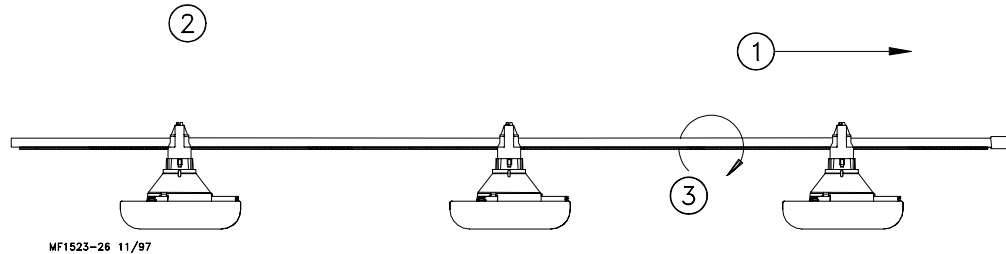

Figure 30. Assemble Feeders on Tubes (Side View)
2. Rotate the auger tubes so that the seam is down, this holds the Pan Assemblies in place on the tubes. See Figure 30.